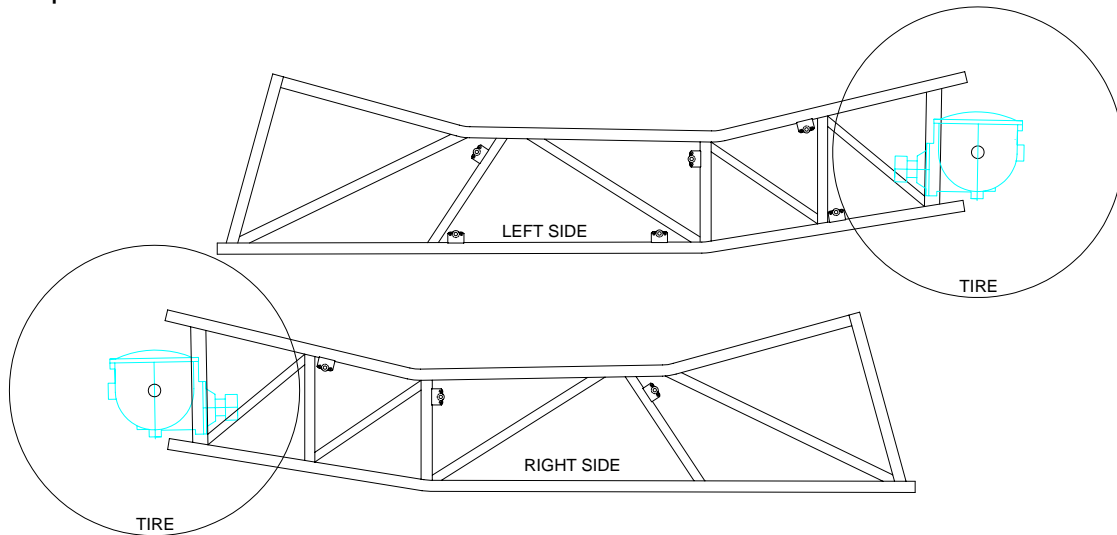

Figure 1
- 1) Install gusseted dzus tabs in approximate location shown in Figure 1. Just tack-weld them in place until it is confirmed that they will work with the pan. Locate the rearmost tabs on each side as close to the front edge of the rear tire as possible.